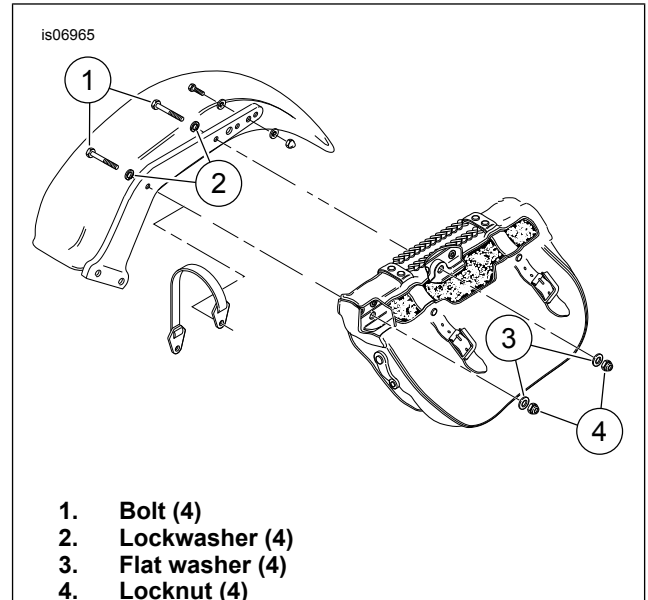

Figure 1. Removal of Saddlebag Assembly (left side)
2. See Figure 1. Remove locknuts (4) and washers (3) from bolt ends inside saddlebag.
3. Lift saddlebag away from motorcycle bolts (1).
4. Remove bolts (1) and lockwashers (2).
1. **On Models Without Wide Tire Kit Installed**, place washers (2) on bolts (1). Insert bolts (1) through holes in saddlebag and saddlebag bracket.
2. **2000-2002 Models With Wide Tire Kit Installed** will utilize the hardware and installation instructions included with that kit to re-orient the fasteners to come from the inside of the fender out as shown in Figure 1.
3. Place front docking point (4) on front bolt (1), with countersunk end facing fender support.
4. Place front docking point (4) on front bolt (1), with countersunk end facing fender support.